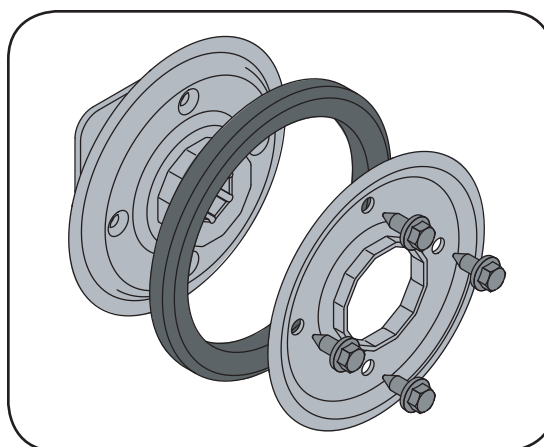

Figure 6-16
4. Remove the four screws which secure the friction wheel's side plates together. See Figure 6-16.